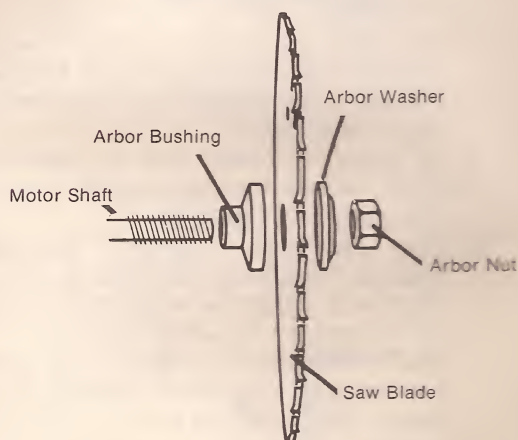
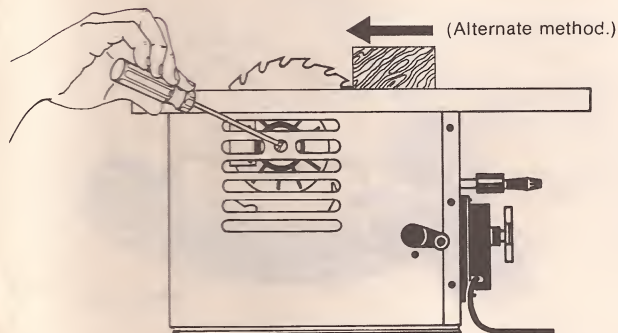

Figure 15
Figure 17
- D. Install the Arbor Bushing on the motor shaft as shown in **figure 15**.
- F. Place the Arbor Washer against the blade as shown in **figure 15** (concave side toward blade), and thread the Arbor Nut on and tighten securely. NOTE: As you tighten the Arbor Nut, insert a screwdriver blade into the slot of the motor shaft through the hole in the left side of the Saw Housing as shown in **figure 17**. NOTE: An alternate method for holding the blade in place while tightening is to push a block of wood into the saw teeth as shown in **figure 17**.